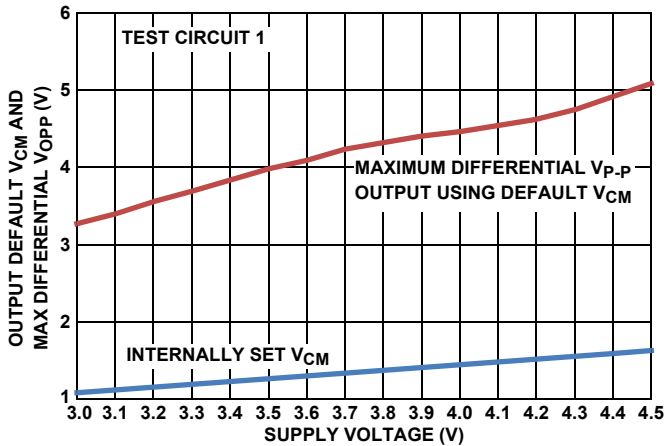
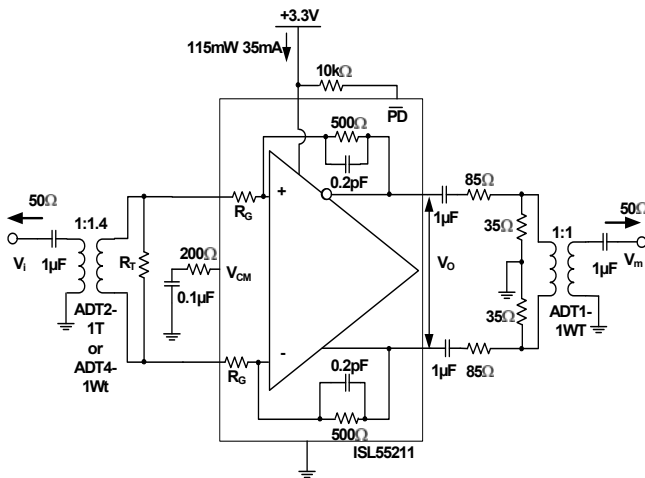
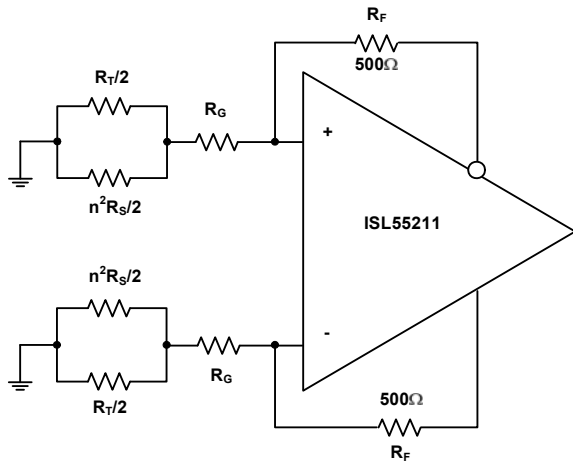
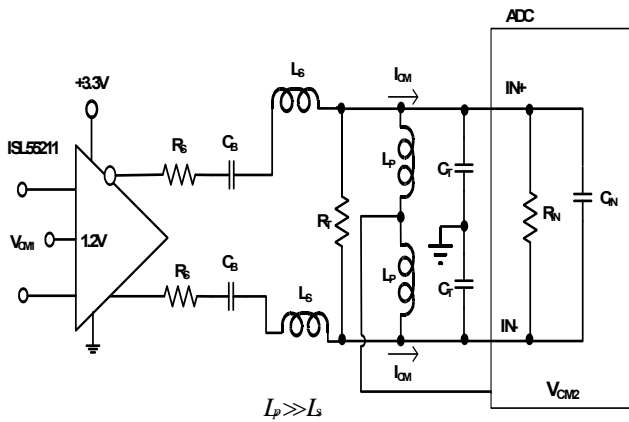

FIGURE 27. DEFAULT  $V_{CM}$  AND MAX  $V_{OPP}$  vs SUPPLY VOLTAGE
FIGURE 29. TEST CIRCUIT 1
FIGURE 35. NOISE GAIN MODEL FOR THE TRANSFORMER COUPLED INPUT CIRCUIT OF FIGURE 29
FIGURE 37. AC-COUPLED, HIGHER FREQUENCY RLC INTERSTAGE FILTER DESIGN
Test Circuit 1 of Figure 29 forms a starting point for many of the characterization curves for the ISL55211. Since most lab sources and measurement devices are single-ended, this circuit converts to differential at the input through a wideband transformer and would also be a typical application circuit coming from a single-ended source. Assuming the source is a 50 $\Omega$  impedance, the internal  $R_G$  resistors and external  $R_T$  are set to provide both the input termination and the gain. Since the inverting summing nodes act as virtual ground points for AC signal analysis, the total termination impedance across the input transformer secondary will be  $(2 * R_G) || R_T$ . Setting this equal to  $n^2 * R_S$  will give a matched input impedance inside the bandwidth of the transformer (where "n" is the turns ratio). The amplifier gain is fixed by the selected input  $R_G$  element and the internal 500 $\Omega$  feedback resistors. While the ISL55211 is internally a Voltage Feedback Design (VFA) to give the lowest possible noise, internal compensation caps hold the bandwidth over gain setting approximately constant at 1.4GHz. For wider small signal bandwidth at lower gains, consider the ISL55210, which provides >2.2GHz at a gain of 12dB.
Working with a transformer coupled input as shown in Figure 29, or with two DC blocking caps from a differential source, means the output common mode voltage set by either the default internal  $V_{CM}$  setting, or a voltage applied to the  $V_{CM}$  control pin, will also appear as the input common mode voltage. This provides a very easy way to control the ISL55211 I/O common mode operating voltages for an AC-coupled signal path. The internal common mode loop holds the output pins to  $V_{CM}$  and, since there is no DC path for an  $I_{CM}$  current back towards the input in Figure 29, that  $V_{CM}$  setting will also appear as the input common mode voltage. It is useful, for this reason, to leave any input transformer secondary centertap unconnected. The internally set  $V_{CM}$  voltage is referenced from the negative supply pin. With a single 3.3V supply, it is very close to 1.2V but will change with total supply voltage across the device as shown in Figure 27.
Most of the characterization curves starting with Figure 29 then get different gains by changing the connections to the two pairs of input  $R_G$  connections, as shown on the pin configuration drawing on page 2. Two input turns ratios are intended for Test Circuit 1; either a 1:1.4 turns ratio (ohms ratio of 2) or a 1:2 turns ratio (ohm ratio of 4). The specific transformers shown in Figure 29 are representative of broadband RF transformers but alternate devices and manufacturers of these turns ratio devices are certainly applicable. The output side of this test circuit presents a differential 200Ω load while converting the differential to single-ended through a resistive attenuator and a 1:1 transformer. This inserts approximately a 17dB insertion loss that is removed to report the characteristic curves. For load tests below the 200Ω shown in Figure 29, a simple added shunt resistor is placed across the output pins. For loads > 200Ω, the series and shunt load R's are adjusted to show that total load (including the 50Ω measurement load reflected through the 1:1 output measurement port transformer) and provide an apparent 50Ω differential source to that transformer. This output side transformer is for measurement purposes only and is not necessary for final applications circuits. There are output interface designs that do benefit from a transformer as part of the signal path as shown in Figure 1. In that case, the 1:1.4 output side transformer becomes part of a filter design and recovers the filter insertion loss from the amplifier output pins to the ADC inputs.
The characterization circuit of Figure 29 shows one possible input stage interface that offers several advantages. Where AC coupling is adequate, the circuit of Figure 29 simplifies the input common mode voltage control. If the source coming into this stage is single-ended, the input transformer provides a zero power conversion to differential. The two gain resistors ( $R_G$  in Figure 29) provide both a portion of the input termination impedance and the gain element for the amplifier. For 50Ω systems, these  $R_G$  resistors are too high with the turns ratios shown in Figure 29 to provide the full match and an external  $R_T$  resistor is required. This  $R_T$  element goes away at the highest gain setting using a 1:2 input turns ratio transformer.
This input interface also simplifies the input common mode control. The  $V_{CM}$  pin controls the output common mode voltage. In most DC-coupled FDA applications, the input common mode voltage is determined by both this output common mode and the source signal. In a configuration like Figure 29, there is no path for a common mode current to flow from output to input, so the input common mode voltage equals the output. A similar effect could be achieved with just two blocking caps on the two  $R_G$  resistors. A DC-coupled, single to differential, configuration will also have a common mode input that is moving with the input signal. Converting to just a differential signal at the amplifier, as in Figure 29, removes any input signal related artifacts from the input common mode making the ISL55211 behave as a differential only VFA amplifier. There is only a very small differential error signal at the inputs set by the loop gain, as in a
of 1.3V for instance, then  $1.3V + 0.9V + 1.5V = 3.7V$  will give an unclipped  $3.6V_{P,P}$  output capability. The  $V_{P,P}$  reported in Figure 27 is an asymmetrically clipped maximum swing. Going 10% above this 3.7V target to 4.1V will be within the recommended operating range and give some tolerancing headroom that would also suggest the  $V_{CM}$  voltage be moved up to approximately 1.5V, which coincides with the default output  $V_{CM}$  from Figure 27. Operating at +4.1V single supply in a Figure 29 type configuration will give the maximum linear differential output swing of  $3.6V_{P,P}$ .
The differential inputs internal to the ISL55211 also have operating range limits relative to the supply voltages. Operating in an AC-coupled circuit like Figure 29 will produce an input common mode voltage equal to the outputs. The inputs can operate with full linearity with this  $V_{CM}$  voltage down to 1.1V above the  $-V_S$  supply. On the default 1.2V output  $V_{CM}$  on +3.3V supplies this gives a 100mV guardband on the input  $V_{CM}$  voltages. Overriding the default  $V_{CM}$  by applying a control voltage to the  $V_{CM}$  pin should be done with care in going towards the negative supply due to this limit. On the + side, the maximum input  $V_{CM}$  above the  $-V_S$  supply is 2V so there is more room to move the output  $V_{CM}$  up than down from the default value.
+85°C maximum operating ambient from Figure 27, we get  $4.5V \times 45mA + 120^\circ C/W = +24^\circ C$  rise above +85°C or approximately +109°C operating  $T_j$  maximum - still well below the specified Absolute Maximum operating junction temperature of +135°C.
Adding an input transformer can improve the input referred noise by adding a noiseless voltage gain. Starting from Test Circuit 1 of Figure 29, and assuming the source shows a matched broadband source  $R_S$  that will be matched by the input referred parallel combination of  $2 * R_G || R_T$ , a noise gain analysis circuit can be developed as shown in Figure 35.
Stepping through the 3 gain settings with two input transformers will allow the noise gain to be calculated for the circuit of Figure 35, which is all that is needed in Equation 1 to arrive at an output differential noise (since  $R_F$  is fixed at 500Ω). Doing this gives Table 4.
2. AC-coupled, higher frequency range interstage filter design. This design replaces the  $R_T$  resistors in Figure 35 with large valued inductors and implements the filter just using shunt resistors at the end of the RLC filter. In this case, the ADC  $V_{CM}$  can be tied to the centerpoint of the bias path inductors (very much like a Bias-T) to provide the common mode voltage and current to the ADC inputs. These bias inductors do limit the low frequency end of the operation where, with  $1\mu\text{H}$  values, operation from 10MHz to 200MHz is supported using the approach of Figure 37.